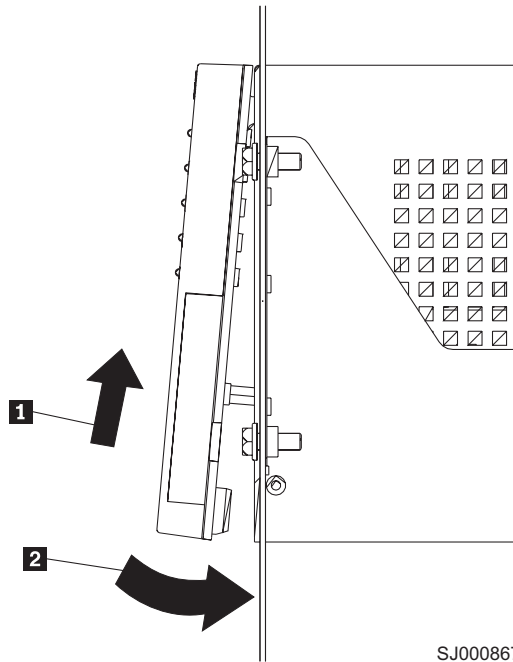

Figure 17. Replacing the controller-unit bezel (machine types 3552 [FASt500] and 1742 [DS4400 and DS4500])
4. To replace the bezel, slide the top edge under the lip on the chassis **1**. Then push the bezel bottom until the pins snap into the mounting holes **2**, as shown in Figure 17 on page 52.